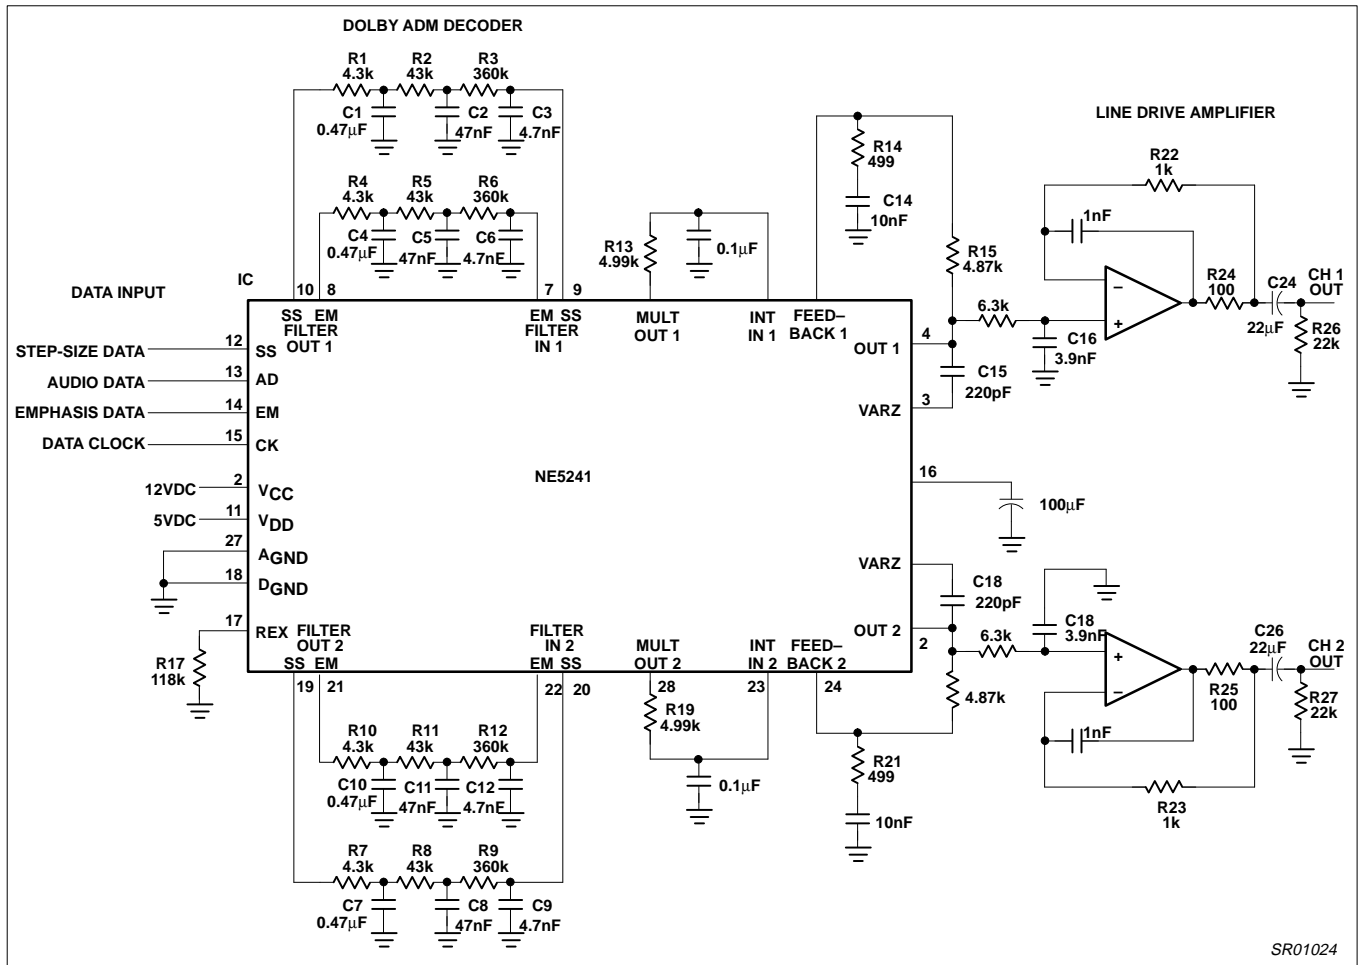

Figure 4. NE5241 Application Circuit
**AC ELECTRICAL CHARACTERISTICS**All specifications are at  $T_A=25^\circ\text{C}$ ,  $V_{DD}=5\text{V}$ ,  $V_{CC}=12\text{V}$ , Audio data rate = 204kHz. 0dB is defined as  $0.775V_{RMS}$ . Test circuit Figure 4.